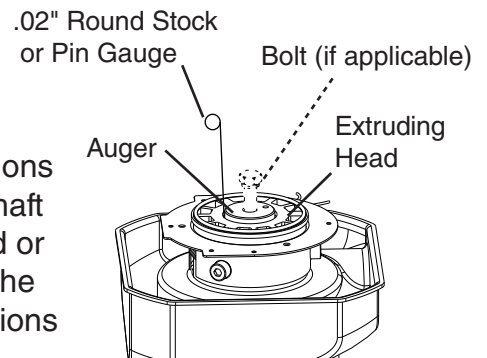

Fig. 9
- 5) Replace the bolt in the auger (if applicable). See Fig. 9. Move the auger towards you and then try to insert a .02" round stock or pin gauge in between the back side of the auger shaft and the bearing surface. Check several locations around the auger shaft. If the gauge goes between the shaft and the bearing at any point or if the bearing is scratched or cracked, both the top bearing in the extruding head and the lower bearing in the housing should be replaced. Instructions for removing the extruding head and housing are located later in this procedure.